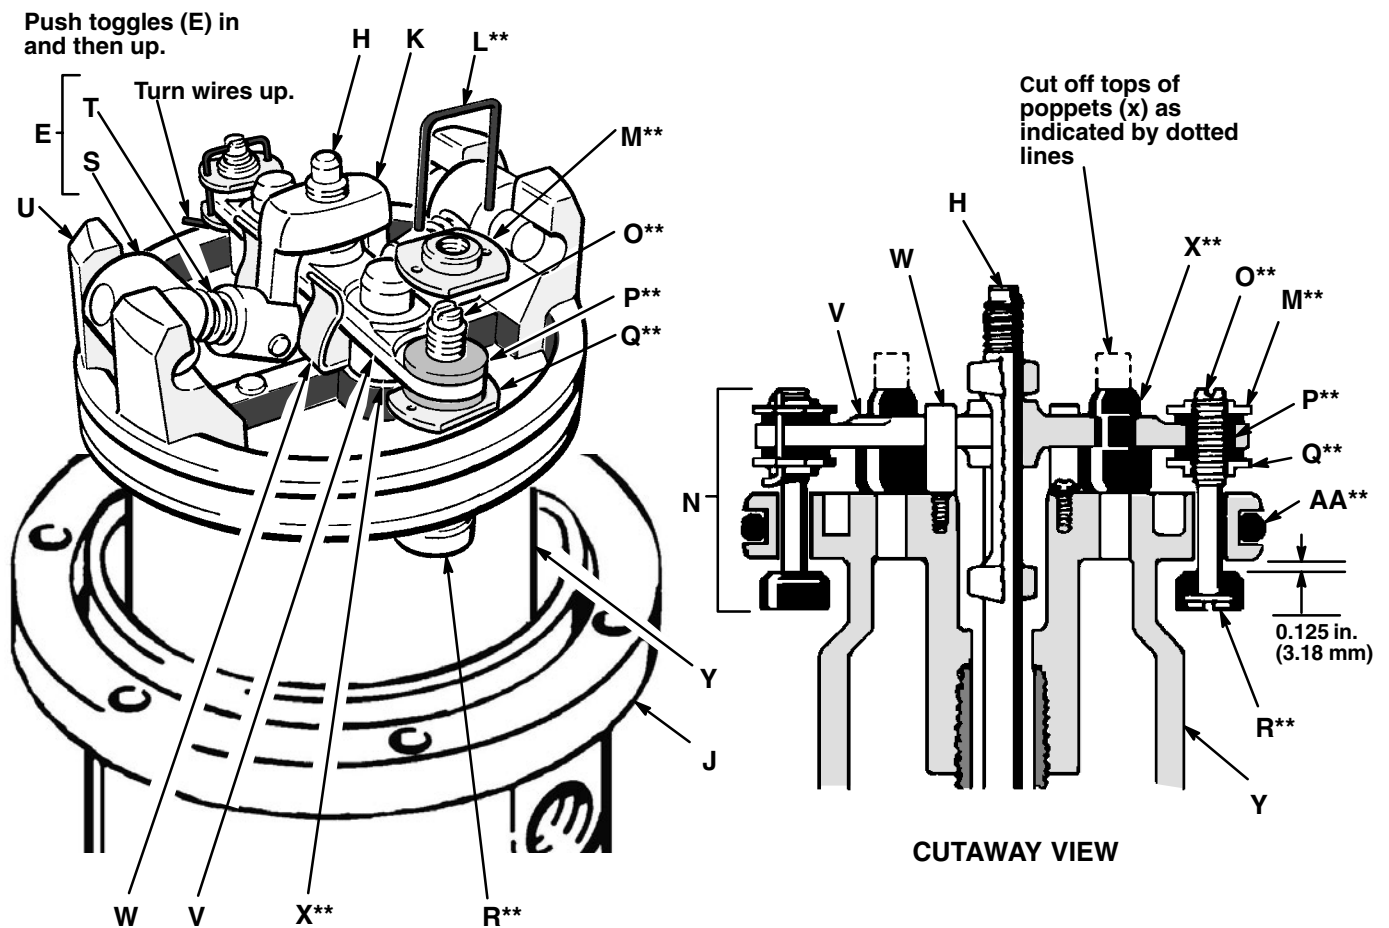

Fig. 3
Always keep fingers clear of the toggle assemblies (E), to avoid pinching or amputating them. See Fig. 3.
5. Use a screwdriver to push down on the trip rod yoke (K) and snap the toggle assemblies (E) down. See Fig. 3. Remove the lockwires (L) from the adjusting nuts (M and Q) of the transfer valves (N). Screw the top nuts (M) off. Screw the valve stems (O) out of the grommets (P) and lower adjusting nuts (Q). Take the valve poppets (R) off the stems and squeeze them firmly to check for cracks.
- Grip the toggle rockers (S) with a pliers. Compress the springs (T) and swing the toggle assembly (E) up and away from the piston lugs (U), and remove the parts. Check that the valve actuator (V) is supported by the spring clips (W), but slides easily into them. See Fig. 3.
- Remove the trip rod yoke (K), valve actuator (V) and trip rod (H). Check the exhaust valve poppets (X) for cracks.
4. Be sure the o-rings are in place. Slide the piston rod down through the throat bearing and lower the piston (Y) into the air motor base (J).
5. Pull the exhaust valve poppets (X**) into the valve actuator (V) and clip off the top part shown with dotted lines. See Fig. 3.
6. Install the transfer valve poppets (R**) onto the valve stems (O**), then reassemble the valve stems (O**), bottom adjusting nuts (Q**), grommets (P**), and top adjusting nuts (M**) on the piston (Y). Assemble the trip rod (H), valve actuator (V), trip rod yoke (K) and toggle assemblies (E) on the piston. See Fig. 3.
7. Set gap on inlet valve (N) using the .125 in. (3.18 mm) side of gauge 171818. Rotate valve stem (O**) until snug against gauge, then back off until valve stem slot is lined up with wire holes in valve nut (M**) (do not back off more than 1/2 turn). See Fig. 3. Install lockwires (L**) in the adjusting nuts M** and Q**).
8. Snap the toggle assemblies (E) to the *up* position. Reinstall the cylinder (G) and hold the trip rod (H) in place with tool 207579. Apply a medium strength thread locking compound to the threads of the trip rod (H) and assemble the cap nut (F) to the trip rod (H). Torque the cap nut (F) to 60 lb-in (6.8 N-m). Install cap nut (F) into cylinder (G).